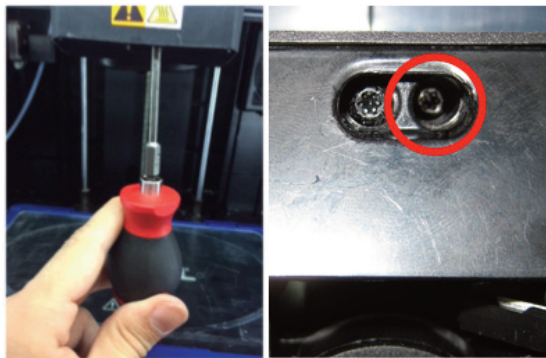

Figure 4a (Left) and 4b (Right): Remove screw located on the right side on the bottom of extruder.
- b. Remove screw located on the right side hole using the T10 Torx screwdriver. Figure 4a below shows the location of the screw, and Figure 4b shows a bottom view of the area where the screw is located. Circled in red, is the screw that needs to be removed.